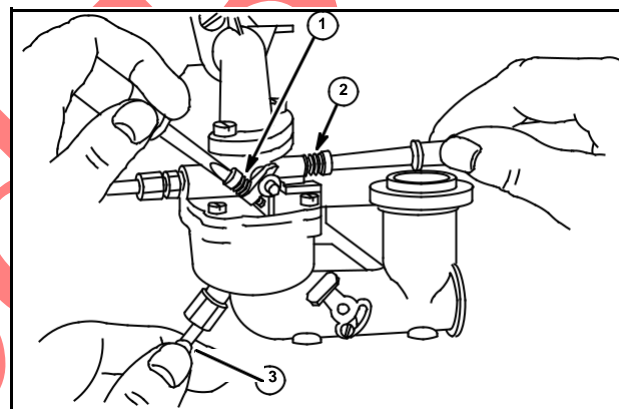

Fig. 148
3. Turn main jet needle valve (3) in until engine slows (clockwise – lean mixture).
7. Adjust idle speed adjusting screw (1) to obtain 1750 RPM, aluminum engines; 1200 RPM, cast iron engines, Fig. 148.
8. Holding throttle against idle stop, turn idle mixture needle (2) clockwise (lean) and counterclockwise (rich).